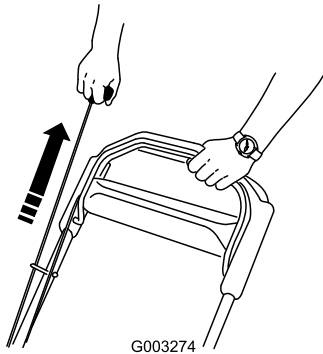

Figure 14
2. Pull the recoil start handle (Figure 14).